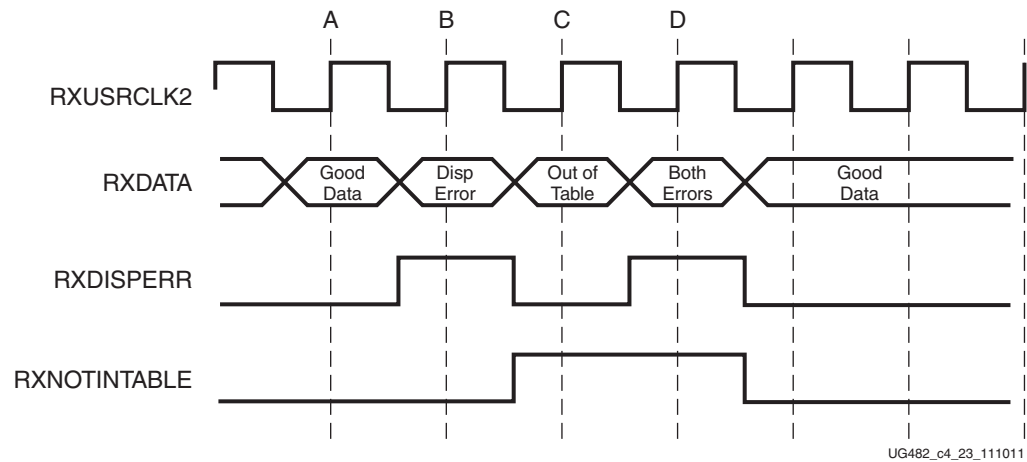

Figure 4-34: RX Data with 8B/10B Errors
Figure 4-34 shows a waveform at the RX data interface when the decoder receives good data (A), data with disparity error (B), an out-of-table character (C), and an out-of-table character with disparity error (D).